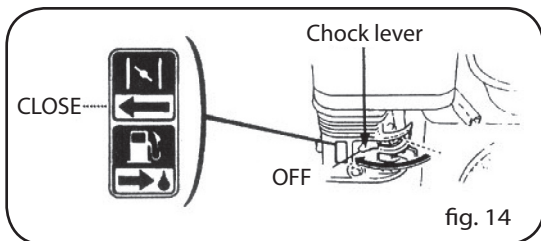

fig. 14
- Push the choke lever to "CLOSE" (Fig. 14).